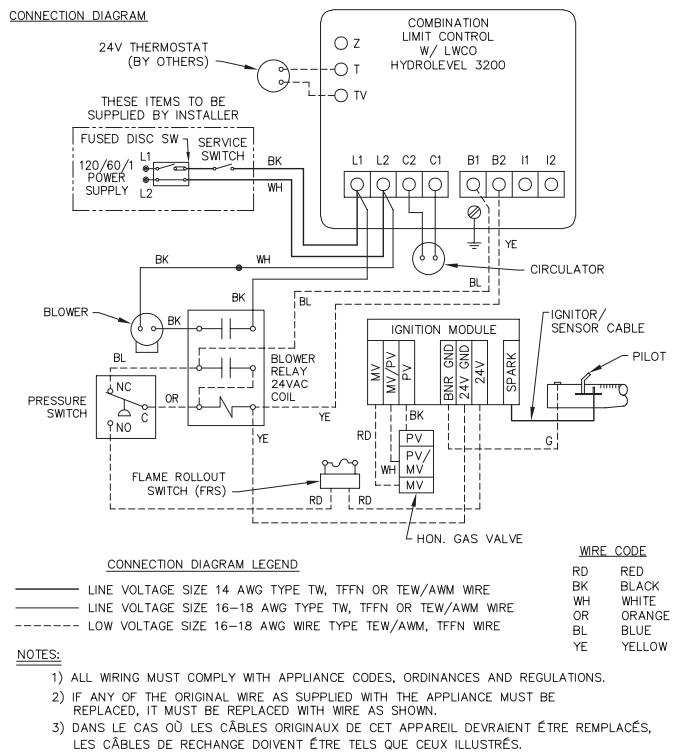

Figure 6.3: Wiring Diagram, Spark Ignited Pilot, Hydrolevel 3200 Limit control
13. Use the sequence description and Figure 6.3 in Section 6 (Electrical) to follow light-off and shutdown sequences and to assist in diagnosing problems. If the boiler does not function properly, consult Section 8, Troubleshooting.